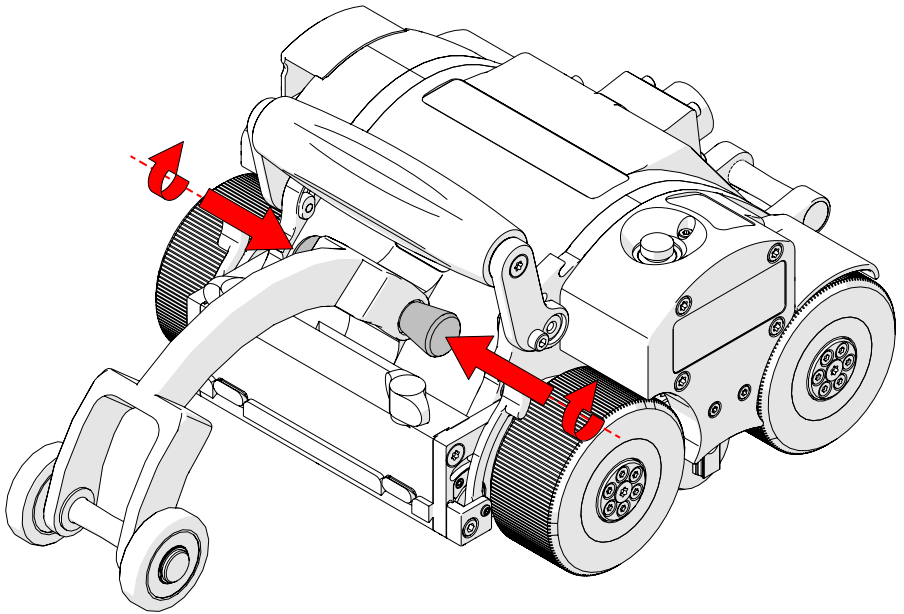

Fig. 69 - Twist pins to unlatch and connect
3. Twist the pins until they unlatch and extend into the connection holes of the **MOTIX** (Fig. 69).